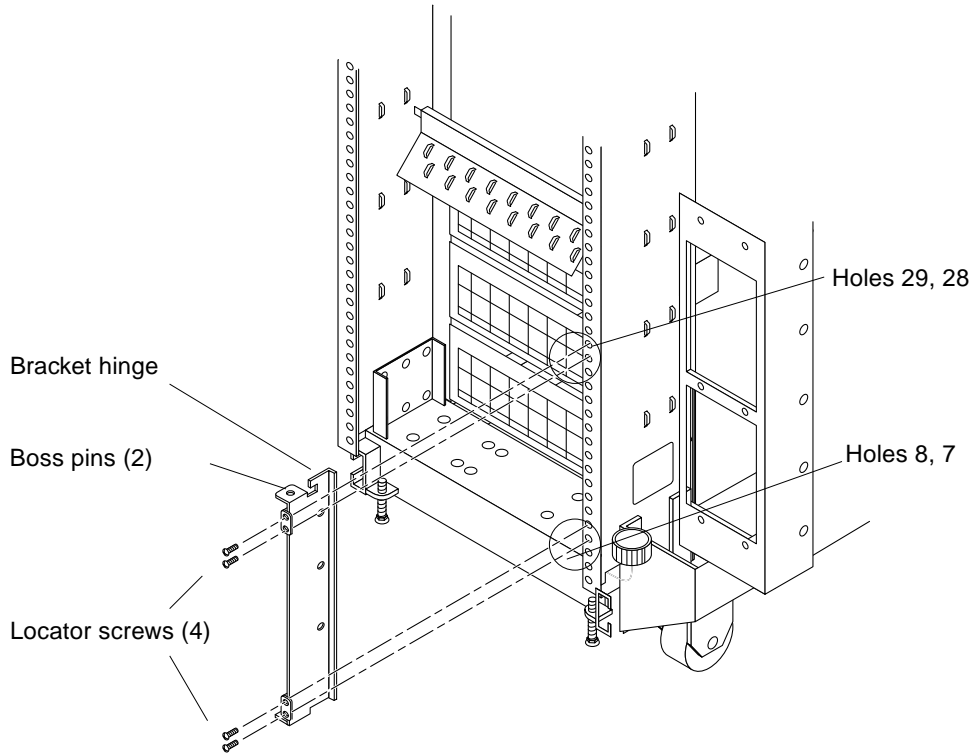

FIGURE 2-1 Installing the Terminal Concentrator Bracket Hinge to the Cabinet
a. **Locate the bracket hinge portion of the terminal concentrator bracket assembly** (see FIGURE 2-1).
Thread the screws into holes 8 and 29, as shown in FIGURE 2-1. The locator screws accept the slotted holes in the hinge piece.
Tighten these screws, and the screws in holes 8 and 29, as shown in FIGURE 2-1.